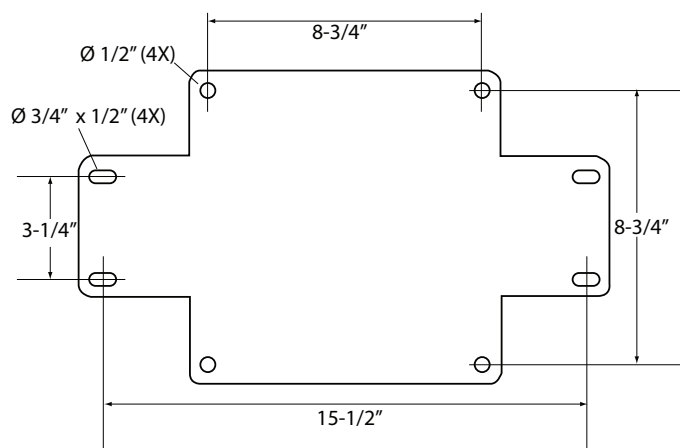

Figure 6. Base plate and support bracket footprint dimensions
- The base dimensions and mounting footprint are shown in Figure 6.